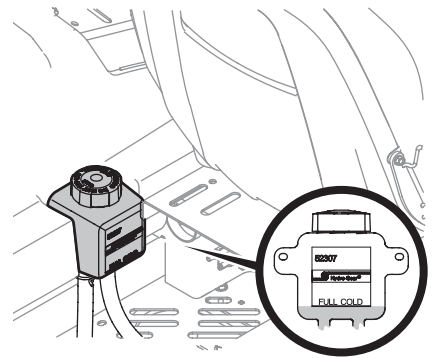

Figure 4-9
1. Pivot the operator's seat forward and clean the reservoir cap and the area around the cap to prevent debris from contaminating the transmission oil. See Figure 4-9.
2. Turn the reservoir cap counter-clockwise to remove, then check the oil level in the reservoir. Oil should be visible at the bottom of the cup, but the oil level must NOT be above the "FULL COLD" line. See Figure 4-9. **DO NOT FILL THE RESERVOIR.**